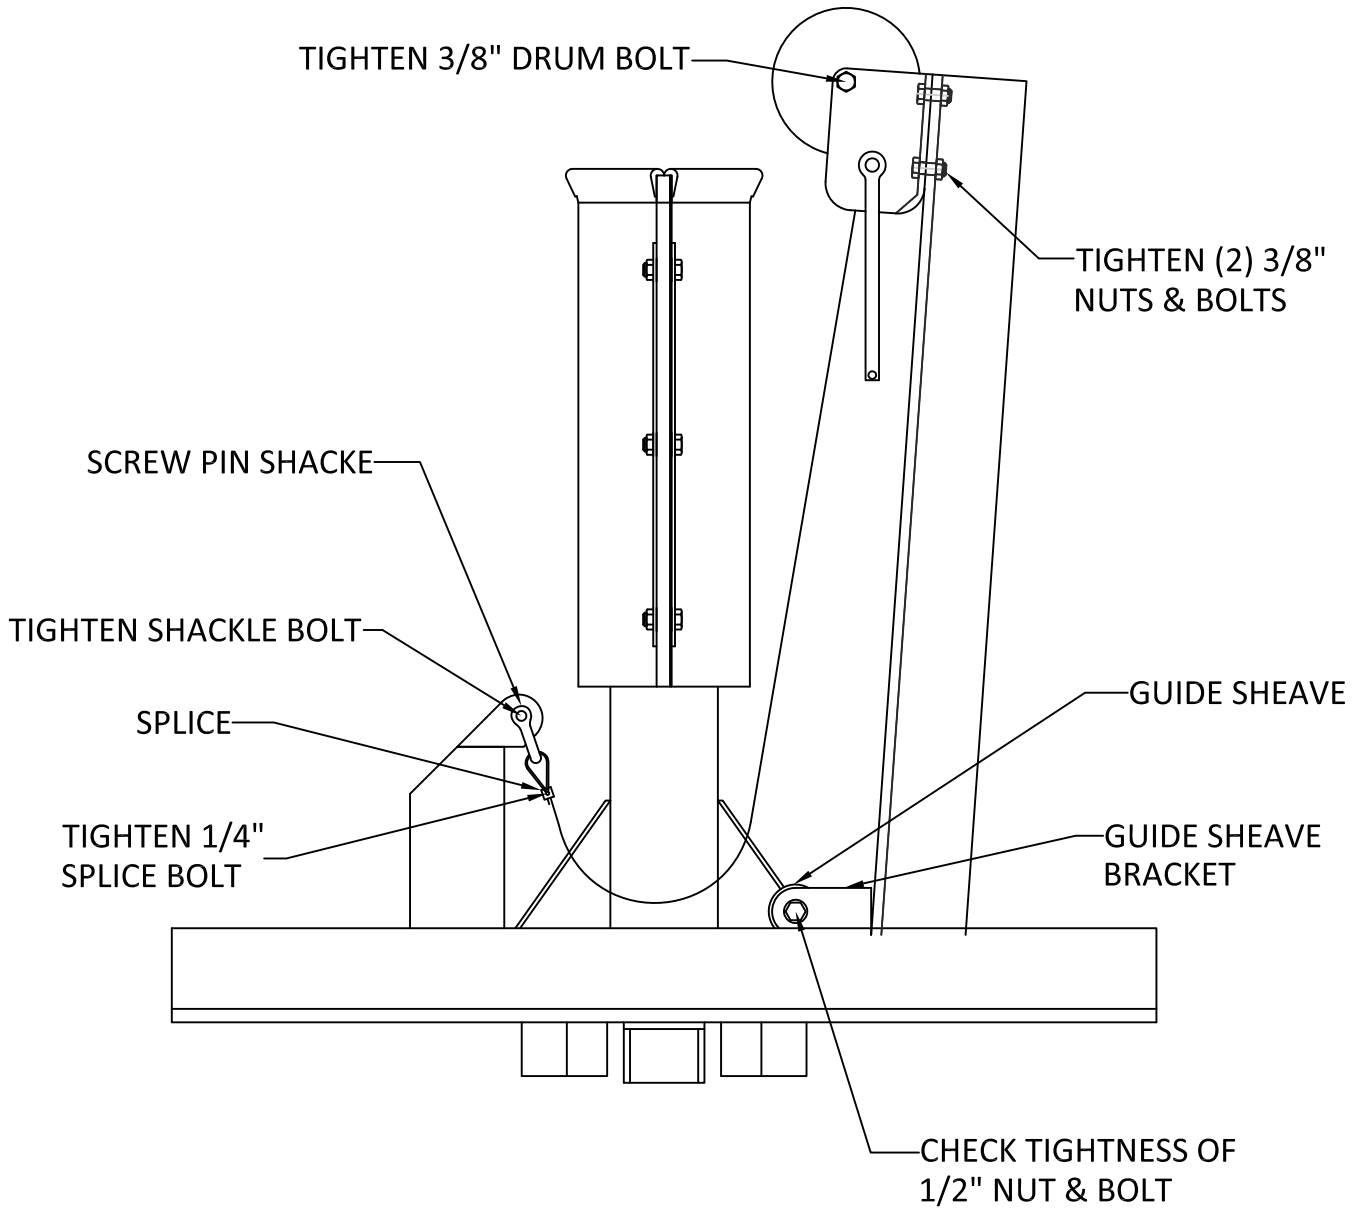

FIGURE 6-9
With the MS-20 structure in the raised position (the three ½” sleeve bolts must be tightened and the alignment pin must be in place) tighten the (2) 3/8” nuts and bolts that secure the winch to the MS-20 base. Also check tightness of the 3/8” drum bolt on the winch itself (See Fig. 6-9). Use two 9/16” combination wrenches for tightening the 3/8” nuts and bolts. Now check tightness of the ½” guide sheave nut and bolt. Now tighten the shackle bolt on the screw pin shackle which attaches the winch cable to the MS-20 base. Use pliers to tighten shackle bolt. Also tighten the ¼” splice bolt on the cable splice. (See Fig. 6-9) Use a 7/16” combination wrench to tighten the ¼” splice bolt. With a flat blade screw driver check tightness of flat head machine screw in aluminum mounting socket. Tighten if required (See Fig. 6-9)